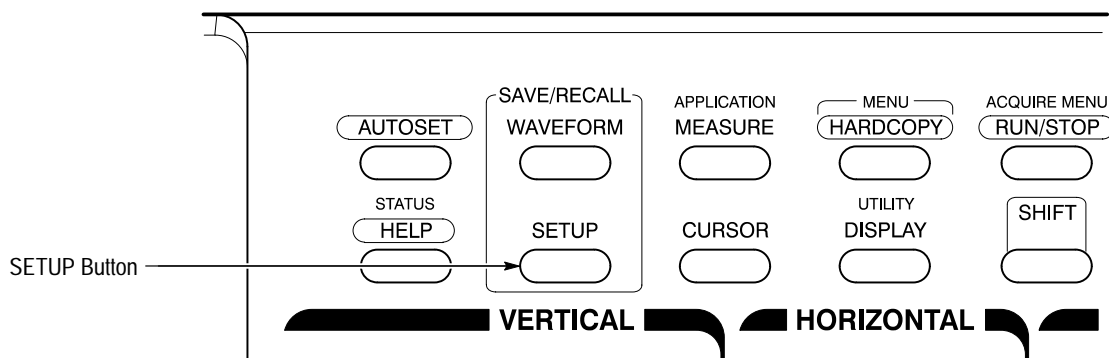

Figure 2-2: SETUP Button Location
1. Press the save/recall **SETUP** button to display the Setup menu. (See Figure 2-2.)